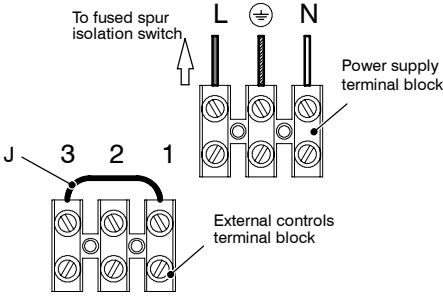

Fig. 6.17
- 6 Connect the electrical supply flexible cord coming from the fused spur isolation switch to the power supply terminal block of the boiler (Fig. 6.17) keeping the same connections for the live (brown wire) and the neutral (blue wire). External 3 A fuse or fused plug with same current rating is recommended.
When connecting any type of external control, the link *J* in Fig. 6.17 must be removed.